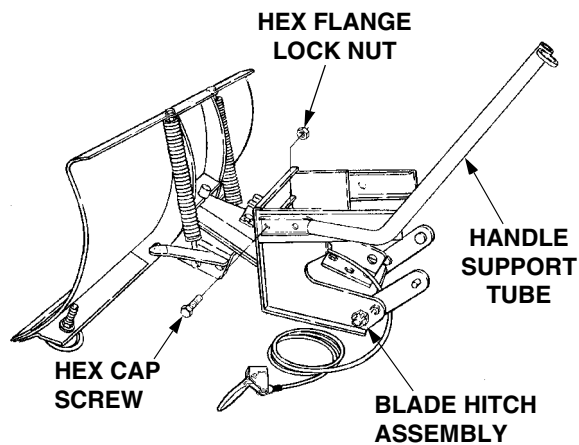

Figure 4
1. Assemble the handle support tube (5) to the LH blade hitch assembly using the hex cap screws (13) and hex lock nuts (12). See Figure 4.